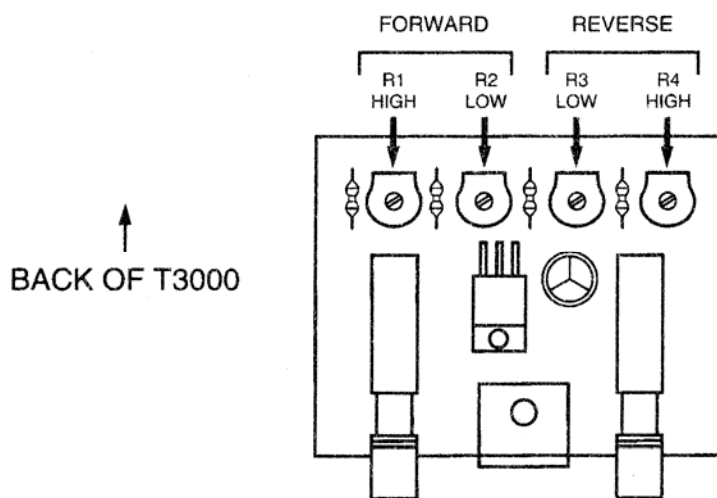

Figure 8.2
9. Depress the RANGE button to select the 3000 W range and adjust R4 (in Figure 8.2) until the reflected power reads 100 W.